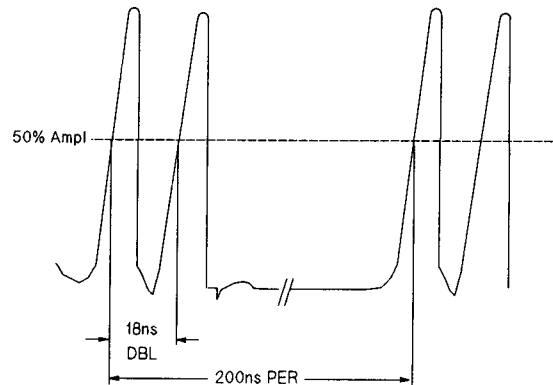

Figure 9-5. Double Pulse Adjustment
23. The typical DELAY (DBL) range characteristic is similar to that shown in Figure 9-5.
33. Press **Autoscale** and adjust A2R13 for $18 \text{ ns} \pm 0.3 \text{ ns}$ at 50% of amplitude. See Figure 9-5.
14. On the oscilloscope press **Autoscale** and adjust A2R8 for $10 \text{ ns} \pm 0.2 \text{ ns}$ at 50% of amplitude. See Figure 9-5.